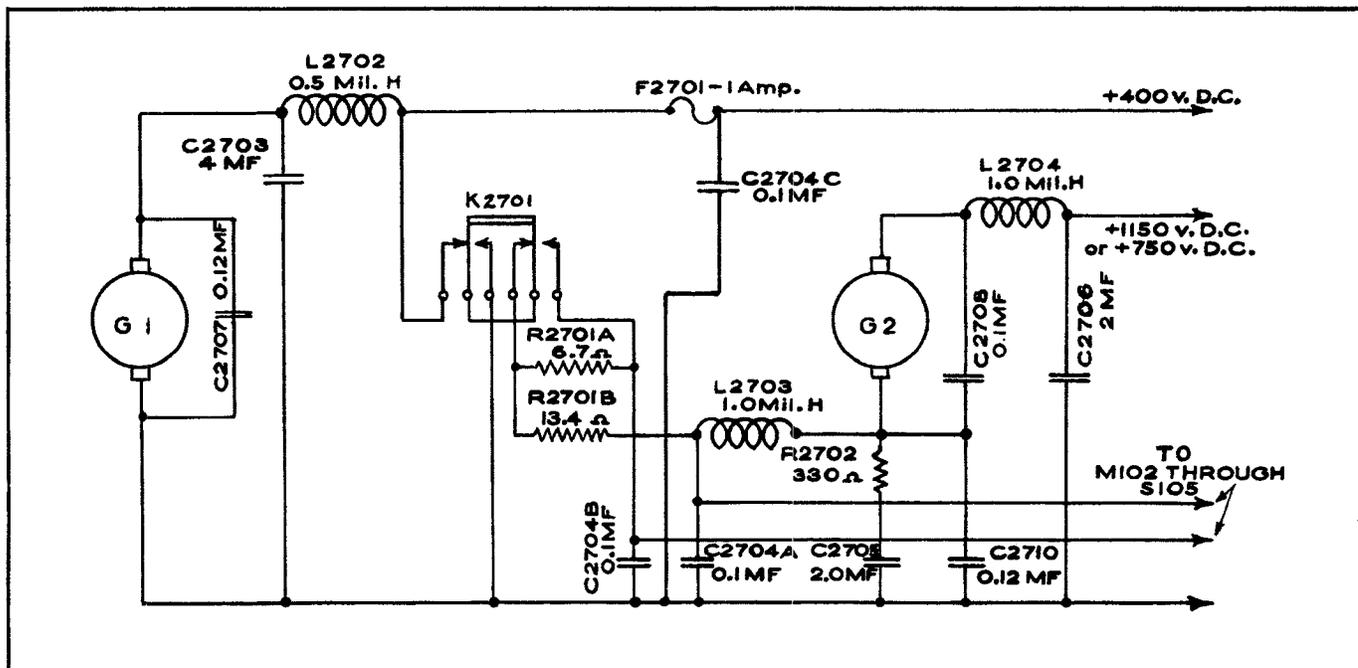

Figure 4-4. High Voltage Circuits
c. HIGH VOLTAGE CIRCUITS.—Figure 4-4 shows, in simplified form, the high voltage circuits employed in the equipment.
(1) The dynamotor employs an armature with dual windings and two commutators to give output voltages of 400 volts d-c and 750 volts d-c. To obtain the high voltage necessary for application to the power amplifier and modulator tubes, the 400 volt output is connected in series with the 750 volt output of the dynamotor. On the diagrams, figure 4-4 and figure 8-42, the low voltage section of the dynamotor is designated as G1 and the high voltage section is designated as G2. When the power change relay, K2701, is in the normal position the positive lead from low voltage dynamotor section G1 is connected to the negative lead of high voltage dynamotor section G2 through the contacts of power change relay